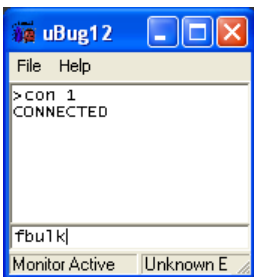

Figure 11
1.43 Loading a Program. Loading a new program into Flash memory is a two-step process-- first you must erase any existing program from memory and then you load in your new program. Here's how to do it (reference Figures 11 through 13):